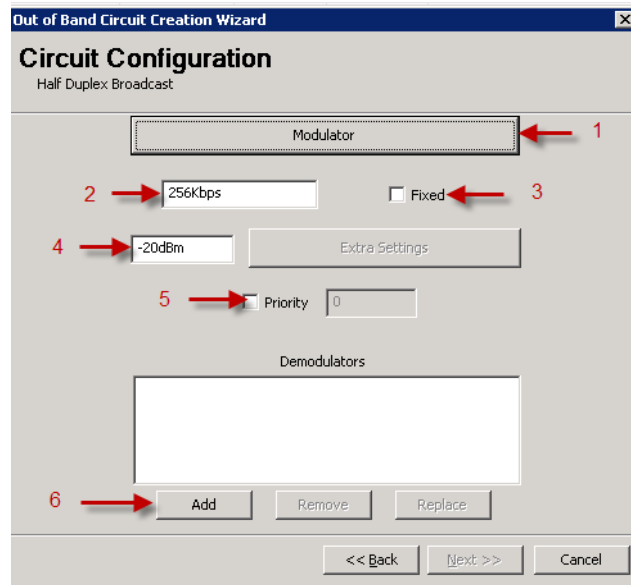

Figure 7-17 Circuit Configuration, Half Duplex Broadcast
19. Click the **Next** button to display the **Circuit Configuration** dialog (figure 7-17).